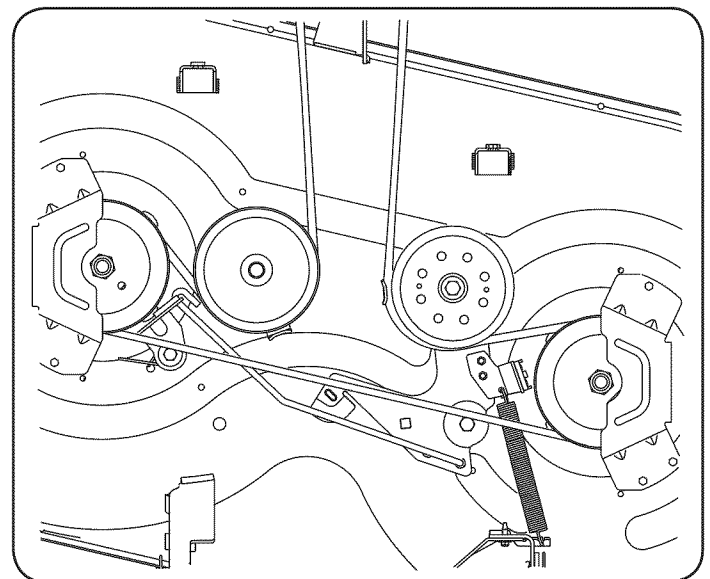
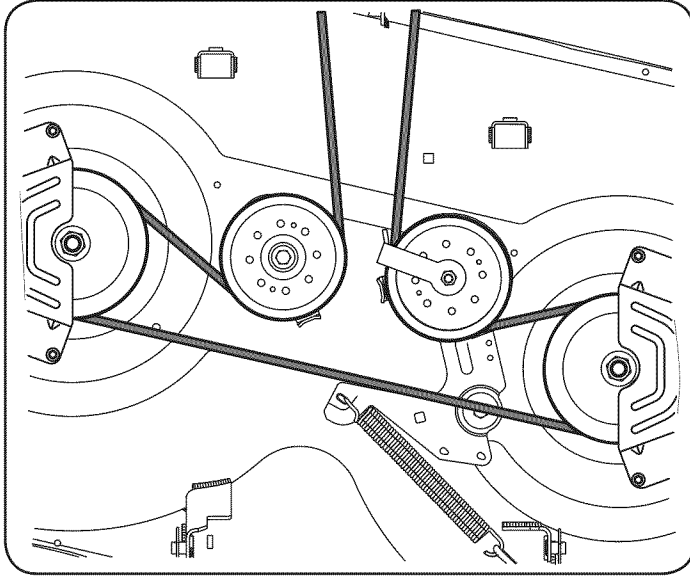
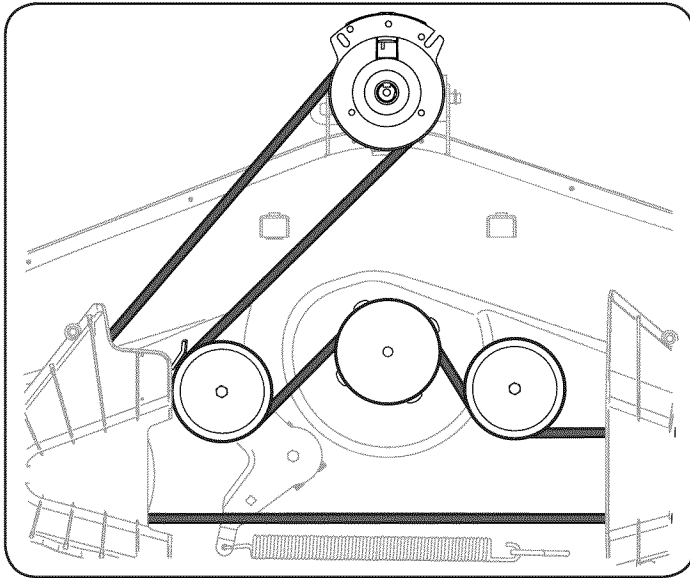

Figure 33
Figure 34
Figure 35
- Route the new belt as shown in Figure 33 for 42" Decks, Figure 34 for 46" Decks and Figure 35 for 50" and 54" Decks.